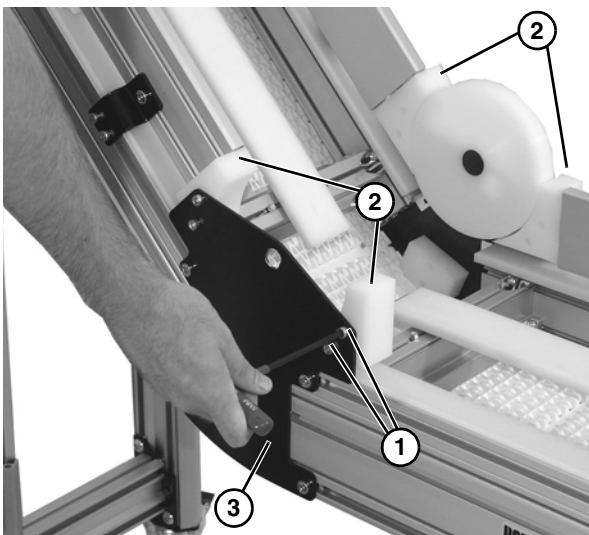

Figure 66
2. Remove two socket cap screws (**Figure 66, item 1**) for all four hold down guards (**Figure 66, item 2**) on side of lower knuckle assembly (**Figure 66, item 3**).